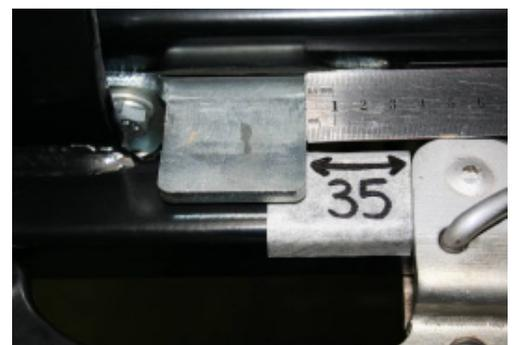

Fig.1
4. Once the wheel carrier has been fitted to the bar, place the lock catch hook into the loop of the handle and position the lock catch and the carrier against the bar as shown in Fig. 1.